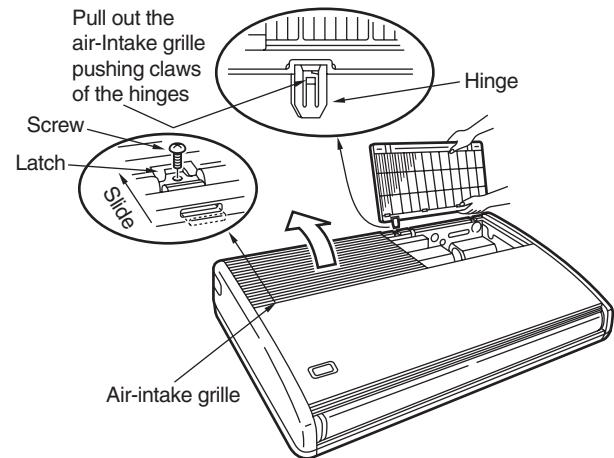
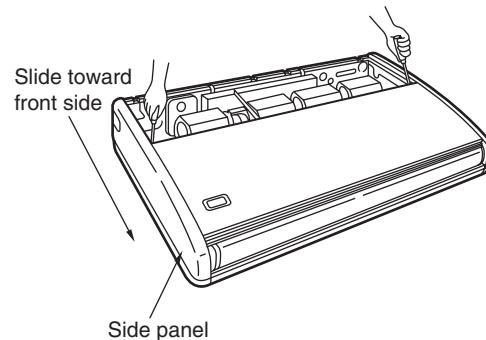

Fig. 1-54
Fig. 1-55
(5) Before suspending the indoor unit, remove the 2 screws on the latch of the air-intake grilles, open the grilles, and remove them by pushing the claws of the hinges as shown in Fig. 1-54. Then remove both side panels sliding them along the unit toward the front after removing the two screws which fix them. (Fig. 1-55)